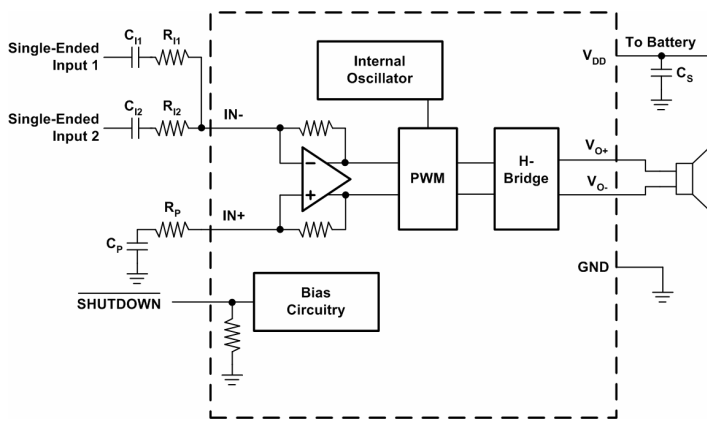

Figure 35. Application Schematic with EUA2011
Four resistors and three capacitors are needed for summing single-ended input signals. The gain and corner frequencies (f_{c1} and f_{c2}) for each input source can be set independently (see equations (9) through (12), and Figure 35). Resistor, R_P , and capacitor, C_P , are needed on the $IN+$ terminal to match the impedance on the $IN-$ terminal. The single-ended inputs must be driven by low impedance sources even if one of the inputs is not outputting an ac signal.